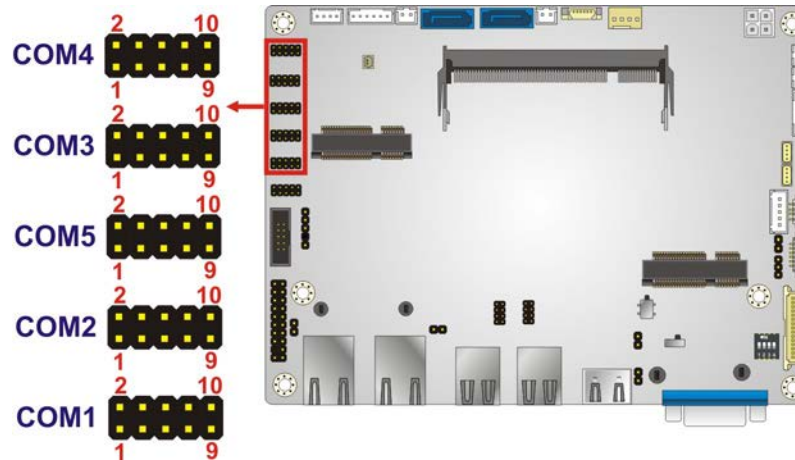

Figure 3-20: RS-232 Serial Port Connector Location
- CN Location:** See **Figure 3-20**